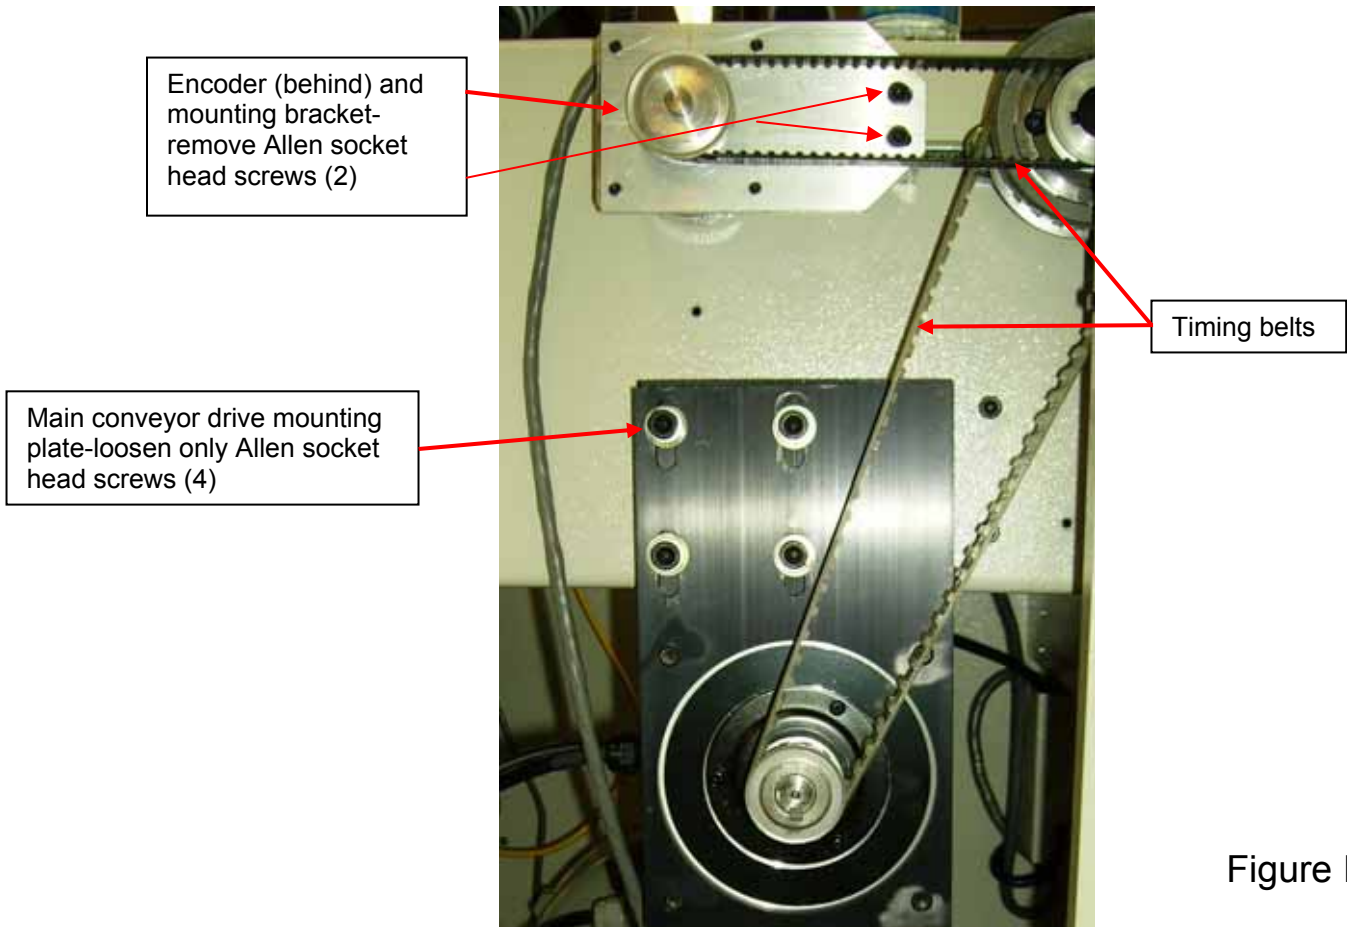

Figure IV-10
- a. Remove Allen socket head screws on encoder mounting bracket and slip timing belt from encoder pulley and discharge pulley shaft. Set assembly aside. See figure IV-10.
- b. Loosen Allen socket head screws (4) on main conveyor drive motor mounting plate. Slide plate up to slip timing belt from drive pulley and discharge pulley shaft